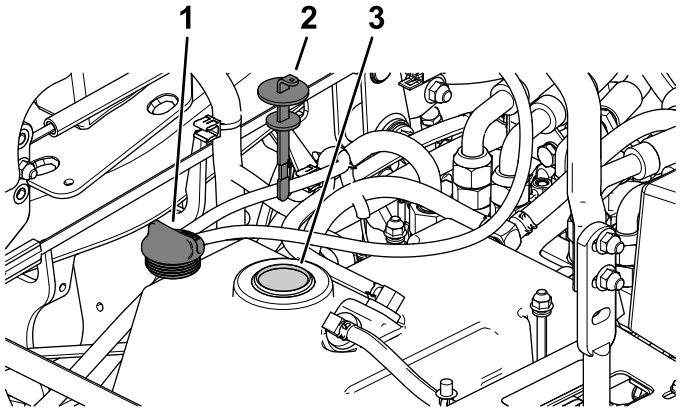

Figure 66
5. Remove the hydraulic-tank cap (Figure 66).